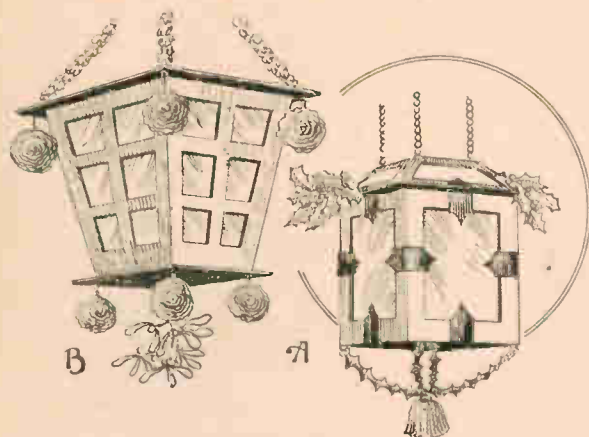
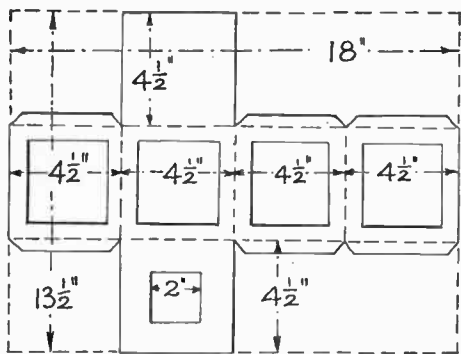

Fig. 1—The lanterns in use
Fig. 2
We show in Fig. 1 two suggestions for lanterns, to which are added some of the decorations previously mentioned. The lantern marked (A) is, perhaps, the simpler of the two to make up, and at Fig. 2 is shown the piece of card measuring 18ins. by 13½ins. from which all four sides as well as the bottom and top can be cut.